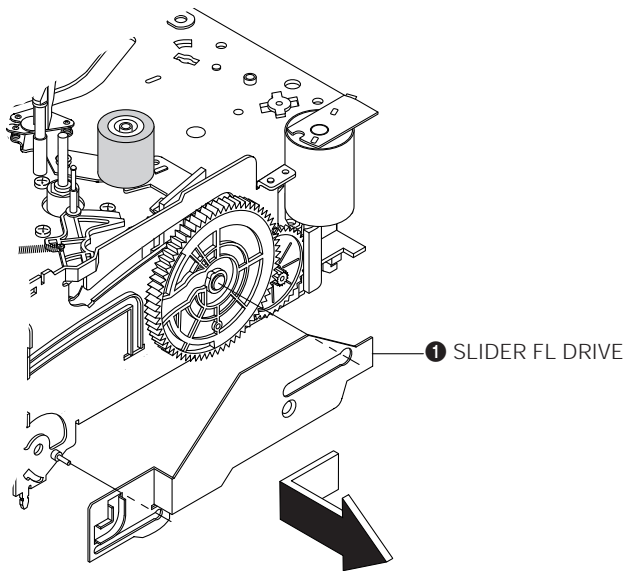

Fig. 1-8 Slider FL Drive Removal
- 1) Pull the Slider FL Drive ❶ to the front direction.
- 2) Remove the Slider FL Drive ❶ in the direction of arrow. (Refer to Fig. 1-8)